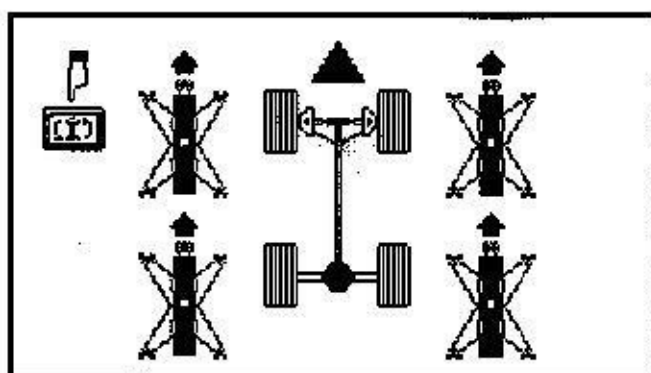

Figure 2-43
C. Wait while the readings are taken. After the tone sounds, position all four wheels so that all four wheel clamp lock knobs are up. The screen shown in Figure 2-43 will appear. Level and lock all four wheel units and then press RUNOUT again.